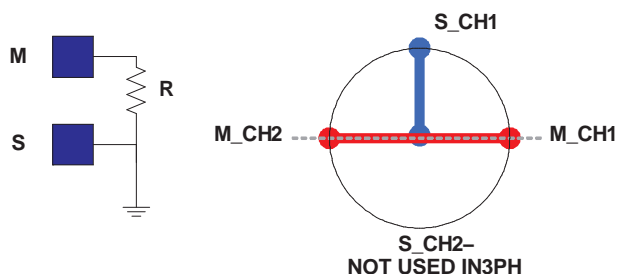

Figure 5-21. Phase System: 2 Channels of the Master and 1 Channel of the Slave
Configuring for other than 2, 4, 6, 8, 12 or 16 phases is simply a matter of not attaching one or more Slave controllers. The phasing between Master and populated Slaves is as shown above. For example a 3-phase system could be configured with a Master CH1 and Master CH2 and 1 phase of a Slave. Referring to part (B) above, the 3 phases could be Master CH1, Master CH2 and Slave CH1 or Slave CH2 as shown in Figure 5-21.